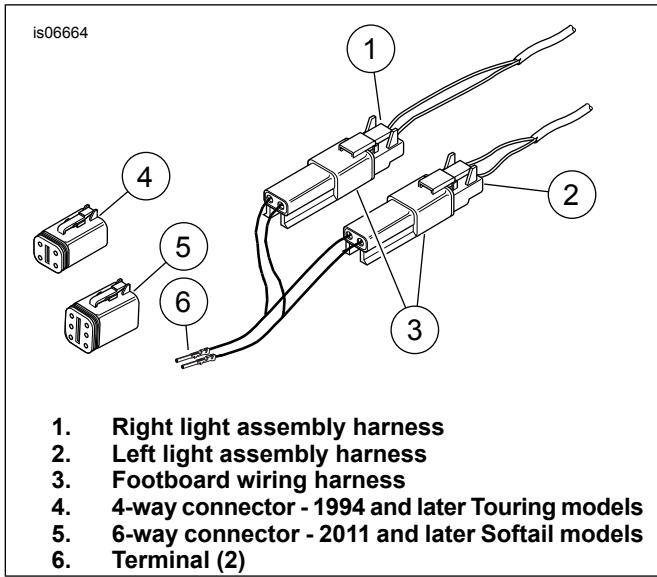

Figure 10. Electrical Connections - All 1994 and Later Models
1. See Figure 10. Install the 4-place Deutsch connector to the floorboard wiring harness. See the service manual.
2. Plug the right (1) and left (2) light assembly wiring harnesses into the footboard wiring harness (3).
3. Connect the footboard wiring harness connector (4) into the accessory plug located under the seat. Proceed to FINAL ASSEMBLY.
1. See Figure 10. Install the 6-place Deutsch connector (5) to the floorboard wiring harness. See the service manual.
2. Plug the right (1) and left (2) light assembly wiring harnesses into the footboard wiring harness (3) supplied in the kit.